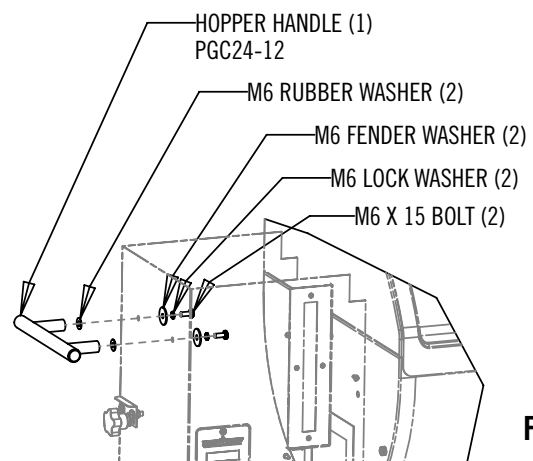

FIG. 5
1. Install hopper handle as shown in Fig. 5.